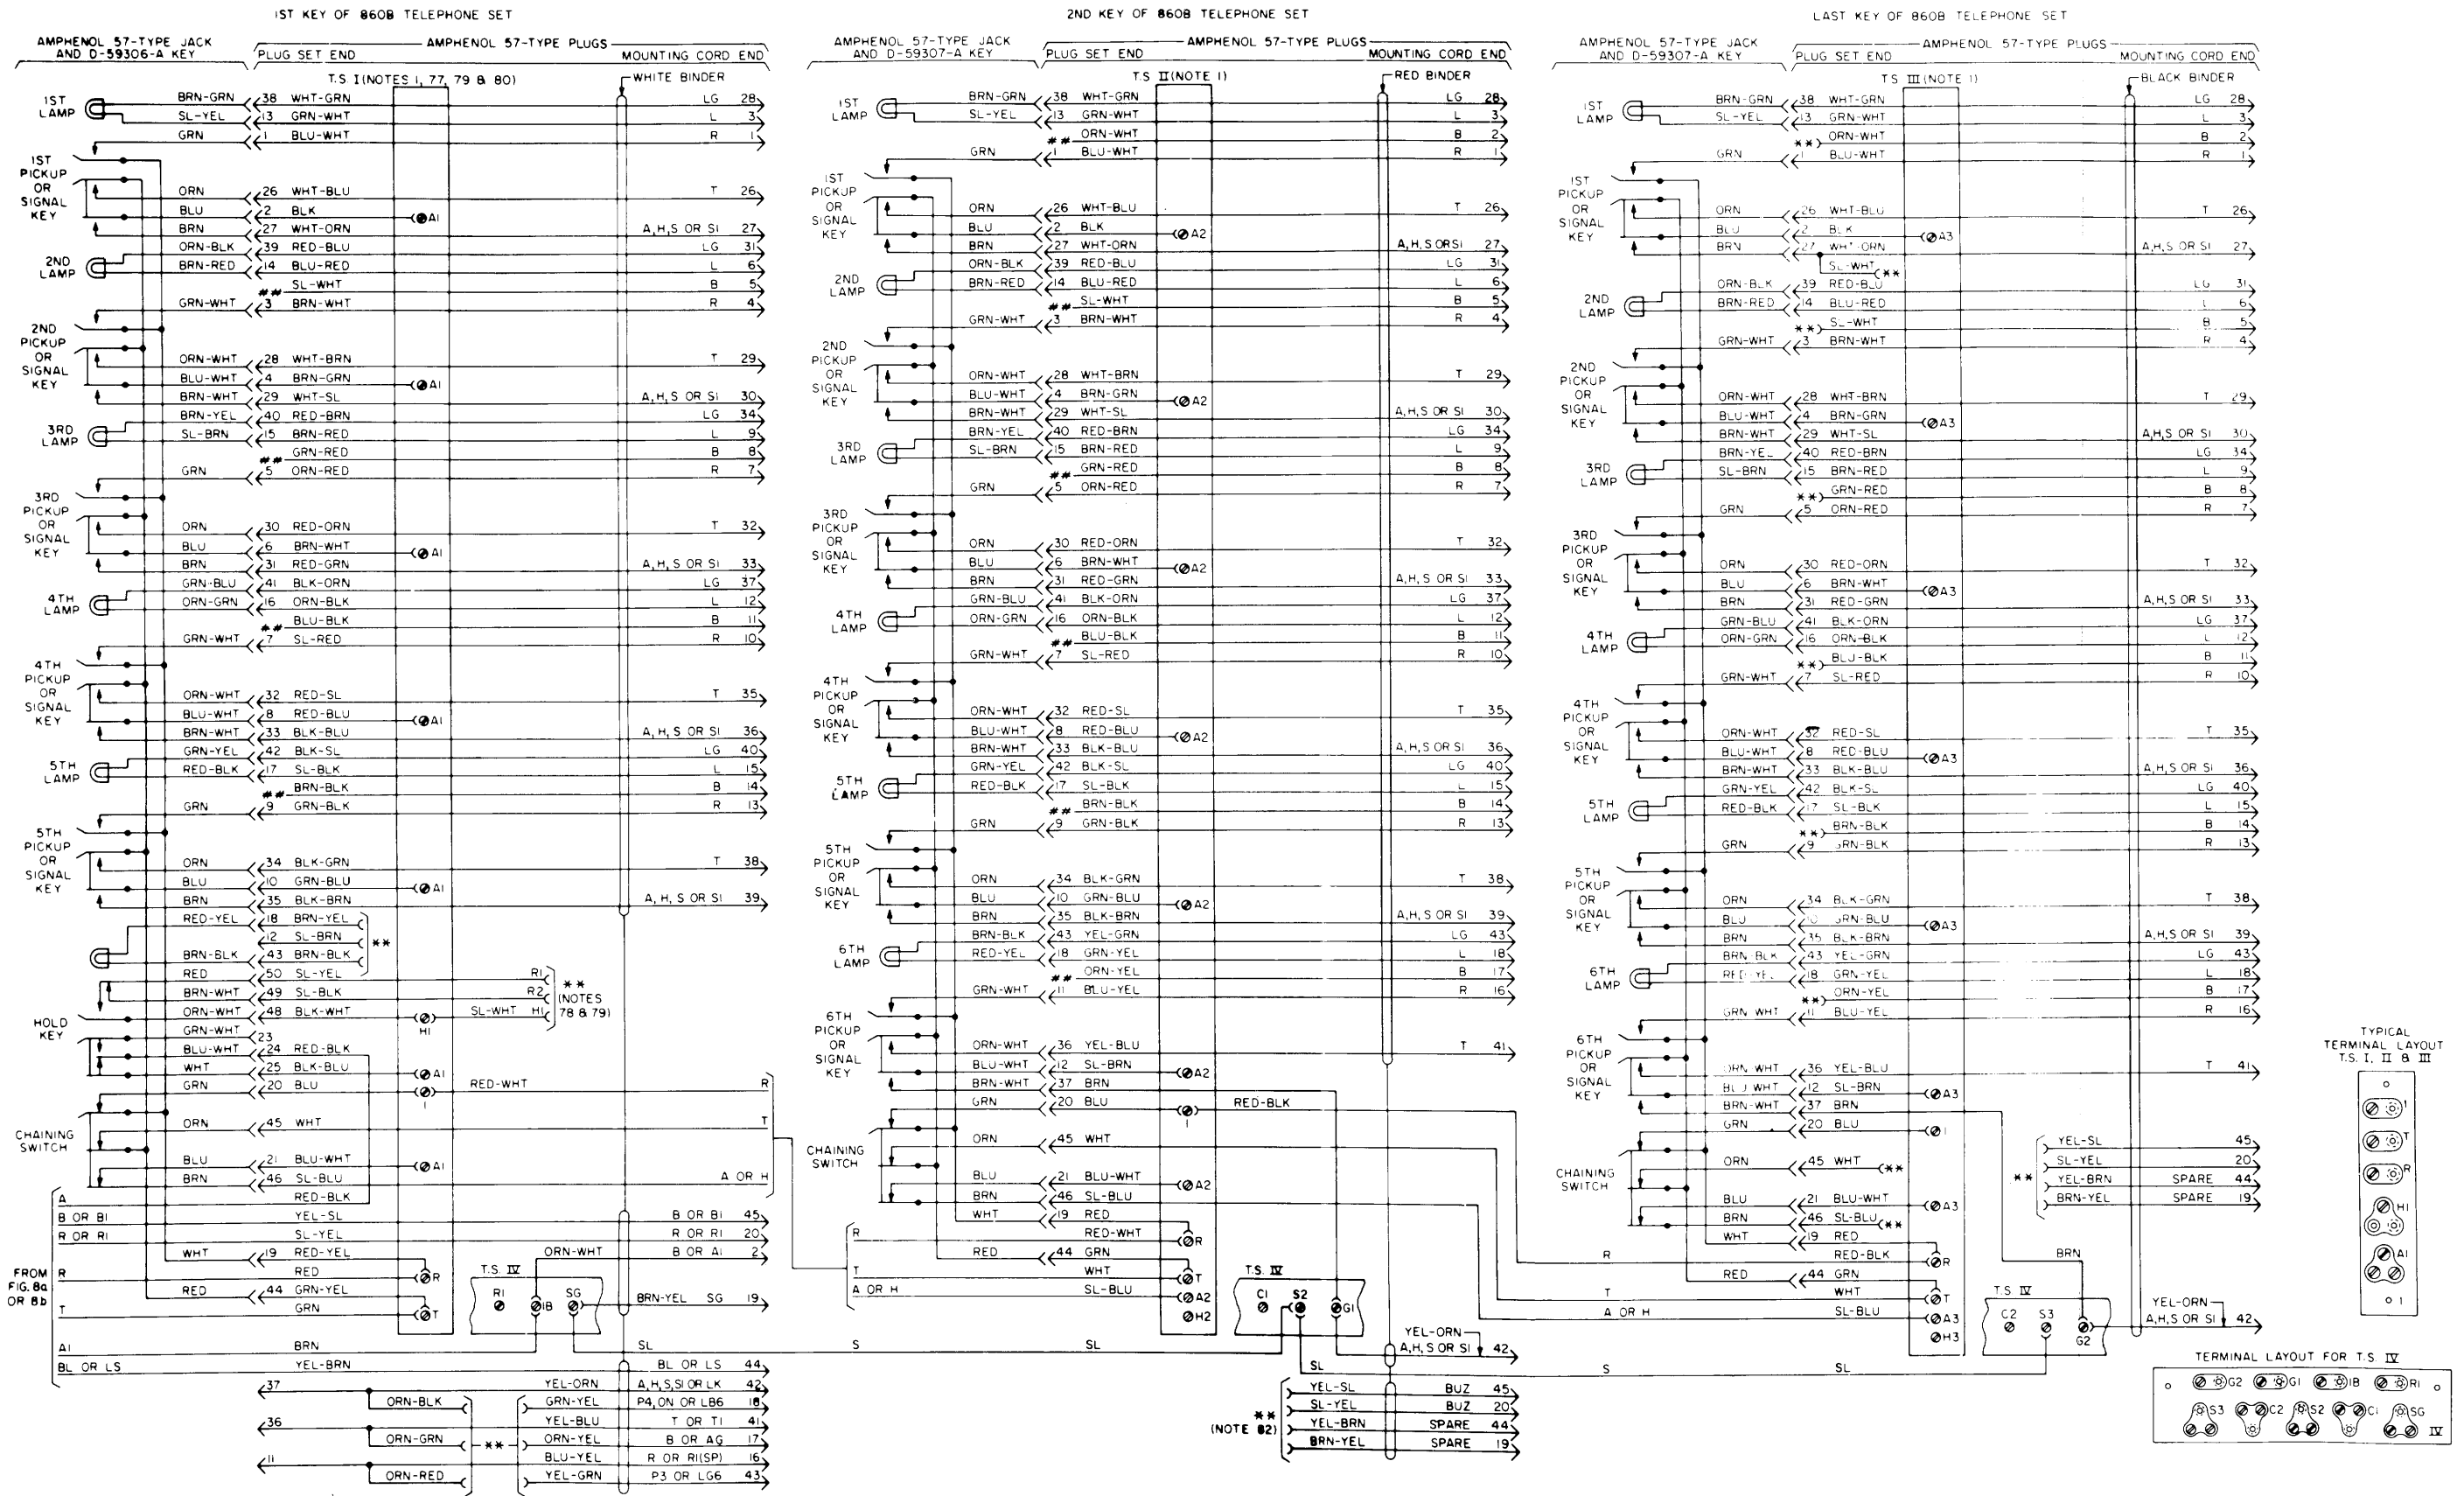

Figure 9. Type 860B Key Telephone Key Set Schematic and Wiring Diagram.
- (4) Locate the insulated and stored leads from the mounting cord group identified by a red binder. Separate the YEL-SL and SL-YEL leads from this group (See Figure 9). Remove the insulator from their spade tips, and connect these leads to the buzzer.
- (5) Restore the dial or Touch Calling unit (as applicable) as instructed in Paragraph 6.04, Steps 8 and 9, or Paragraph 6.05, Steps 8 and 9, respectively.
- (6) Install the housing on the telephone set as instructed in Paragraph 6.03.